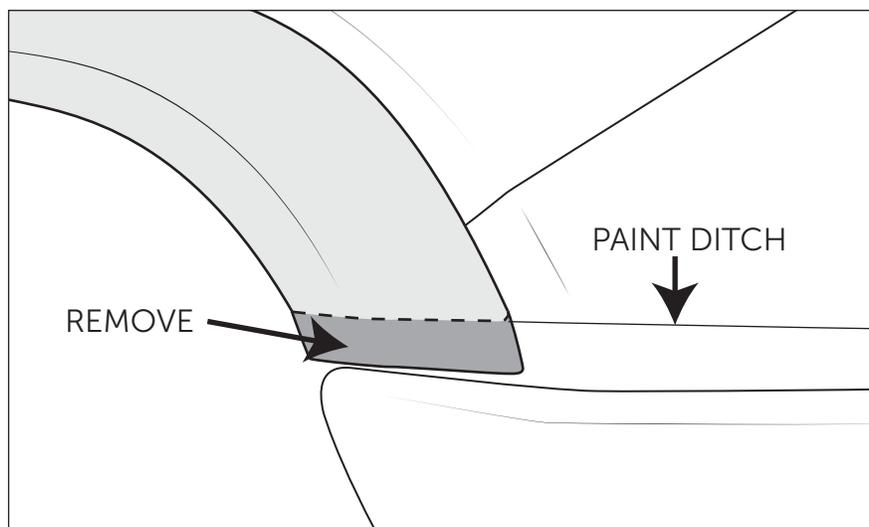

Figure 23
- C. Trim the bottom edge of the fender flares to sit flush with the paint ditch on the headlamp filler. This will allow an aftermarket bumper to flex without interference (fig. 23).